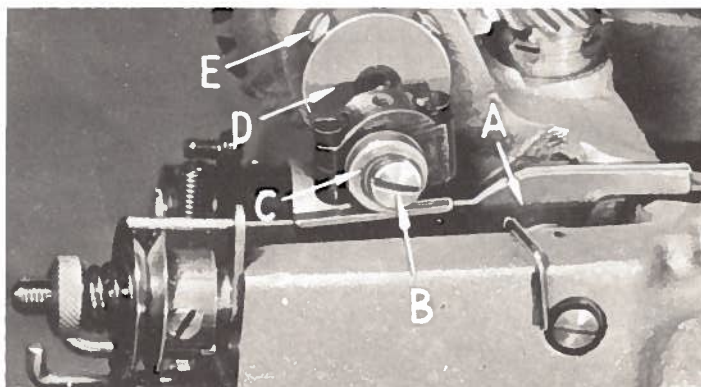

Fig. 18
It may be necessary to increase or decrease the size of the needle thread loop for various sizes of thread. This adjustment is made by advancing needle drive crank (D, Fig. 18) slightly for larger loop, retarding slightly for smaller loop.
The automatic thread tension lever (A, Fig. 18) should now begin to part the tension discs. This adjustment is made by manually depressing the lever (A) until its projection begins to part the discs, loosening screw (B), and moving the eccentric sleeve (C) to maintain the lever (A) in the desired position. This is an approximate setting only, and may have to be changed slightly to compensate for varying thicknesses of thread.